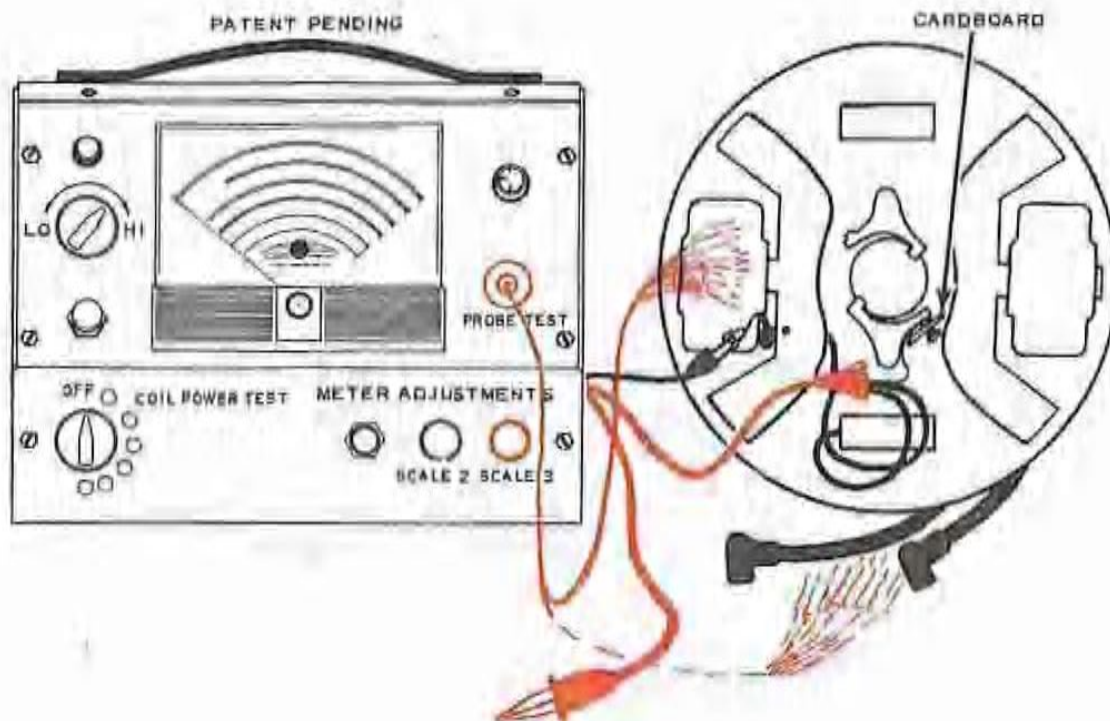

Figure 8
1. Remove single red test lead from coil secondary, (High Tension lead) see illustration Fig. 8,